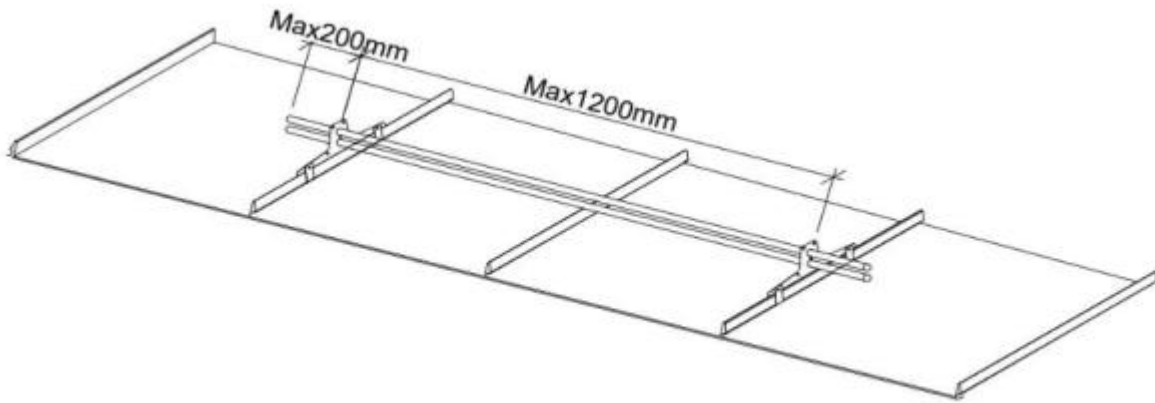

Figure 1.
- Place the tubes in the designated locations. The maximum distance between RP-bracket plates and pipe ends is 200 mm (Figure 1).